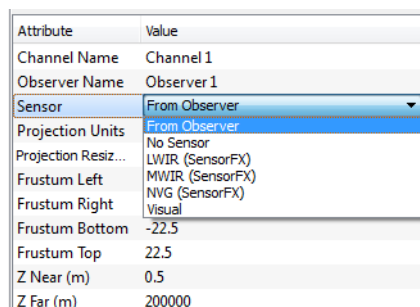

Figure 1-3. Sensor list
4. Select a sensor from the list (Figure 1-3).